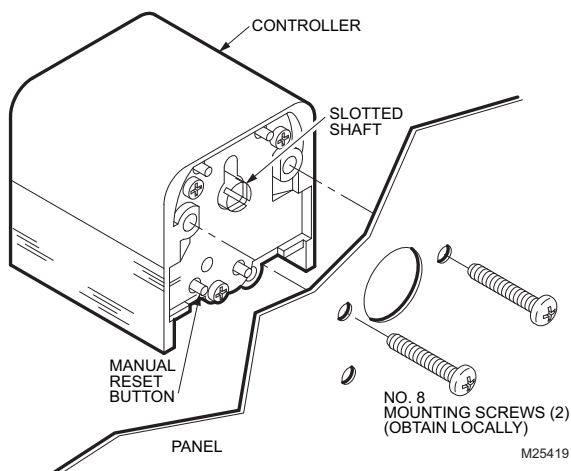

Fig. 6. Drill holes in the Panel as shown.
1. Mark and drill three holes in the panel, using the template in Fig. 6 as a guide.
4. Hold controller against back of panel with terminals pointed down and fasten with two No. 8 sheetmetal screws (not supplied) (Refer to Fig. 6).